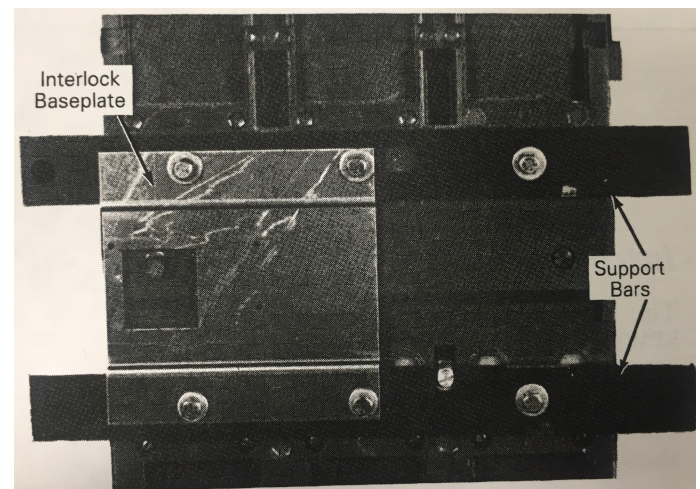

Figure 5. Support bars and interlock baseplate installed on the rear of the breaker.
4. Mount the two aluminum support bars and the interlock baseplate on the rear of the breaker, as shown in Figure 5. Attach with four 3/8-16 bolts tightened to 30 in-lb.